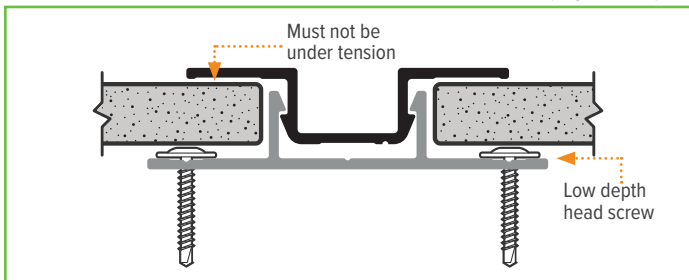

Figure 11.1
**Note** Ensure screw head depth is low enough to allow for panel to be installed so that it is not under tension. (Figure 11.1).